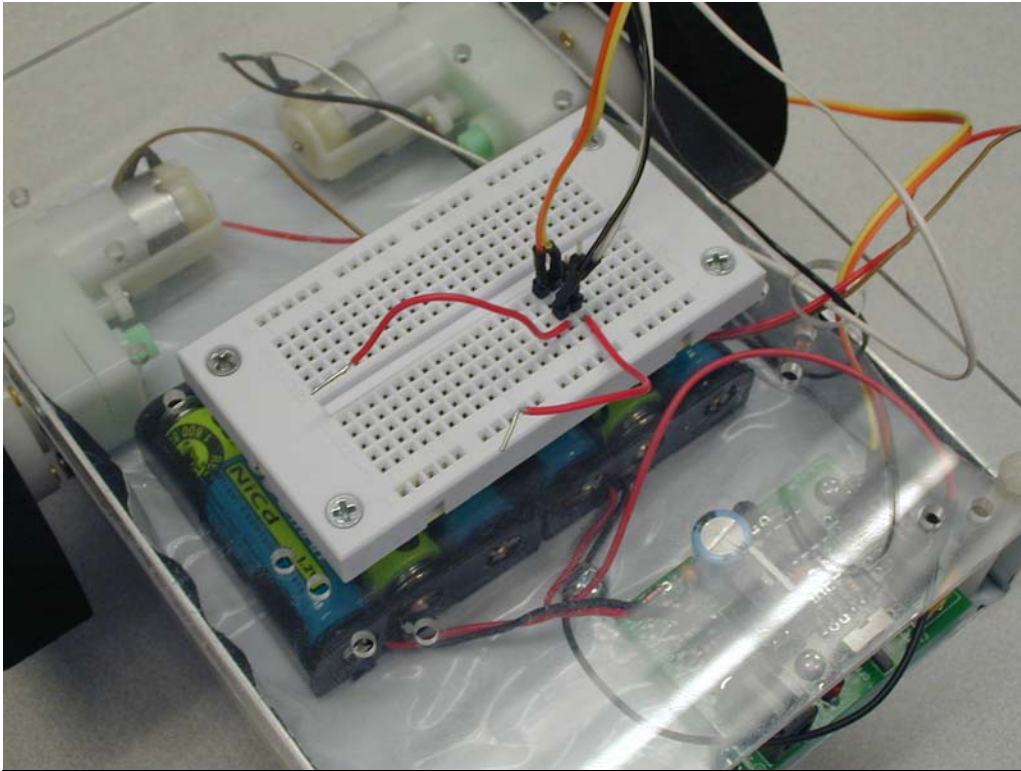

Figure 7 Cable Positions for Testing Motors
5. Turn the switch on the charger board to "OFF". Insert the power plug into the breadboard. Make sure each pin is in a separate node. If you have the plug rotated 90 degrees, you will short the batteries to ground. (This is bad!) Connect one of the motor cables to the breadboard in the same nodes as the power and ground of the power plug. See Figure 7. Move the charger switch to "ON". One of the wheels should turn. Repeat for the other wheel. Connect both motor cables and run the Tekbot on the floor. Observe how straight it goes.
7. Place one short jumper wire in the breadboard node that is connected to ground. Place another in the node for the battery. Connect the voltmeter to these wires to measure the battery voltage when one wheel is turning. See Figures 7 and 8.